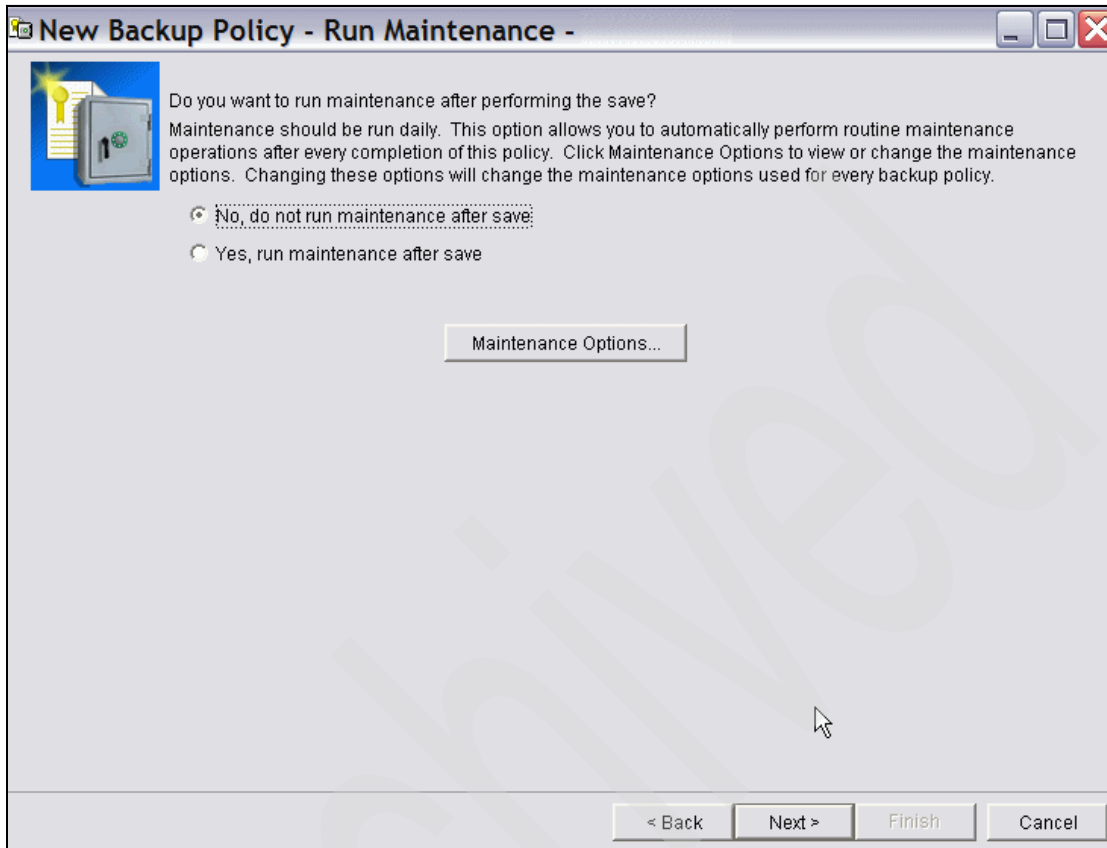

Figure 5-29 BRMS backup policy, run maintenance
15. Since BRMS maintenance will not be run every time a backup of this Domino server is done, in the Run Maintenance window shown in Figure 5-29 on page 217, select **No, do not run maintenance after save**, and click **Next**.